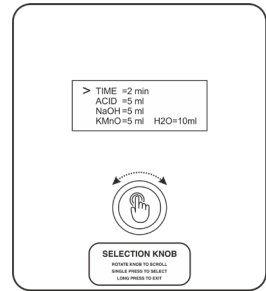

Fig. No. 19.2
• START MENU (Ref. Fig. No. 19.2)